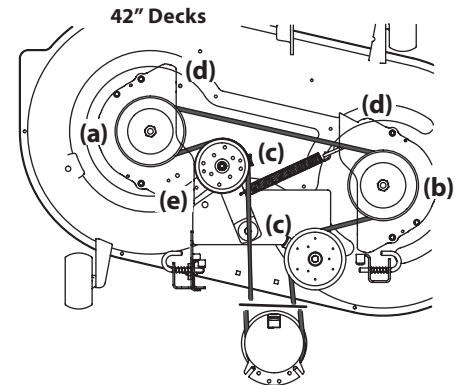
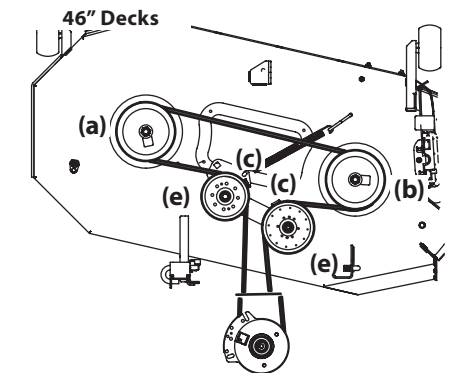
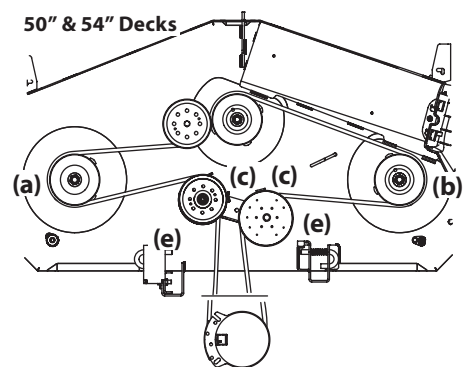

Figure 4-17
Figure 4-18
Figure 4-19
2. Loosen, but do not remove the hardware on the right (a) and left idler pulley (b). Refer to Figure 4-17 for 42" decks, Figure 4-18 for 46" decks and Figure 4-19 for 50" & 54" decks.